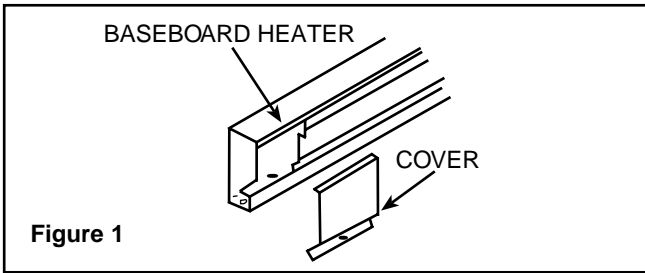

Figure 1
2. Remove selected wiring compartment cover (Figure 1) and discard.